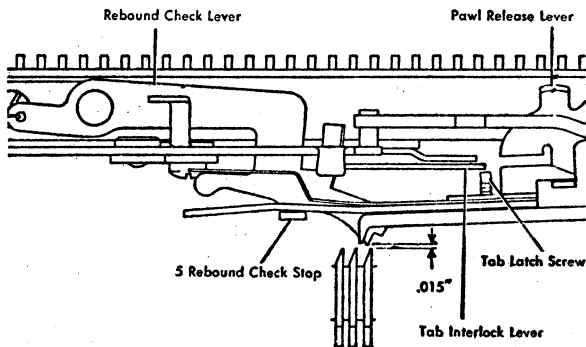

Figure 11. Tab Latching Adjustment
4. **THE TAB OPERATING LINK** is adjusted so that when the cam is on the high point the tab latch screw will overthrow the tab interlock lever by approximately .010" (Figure 11).
5. **THE REBOUND CHECK STOP** should be formed so that when the tab lever is latched the tip of the rebound check lever clears the tab rack by .015" with all tab stops cleared (Figure 11).
chine and move the tab lever out past its latched position. Form the extension at a point close to the tab lever so that the extension strikes the rebound check stop and halts the tab lever when the tip is .015" from the tab rack (Figure 11).